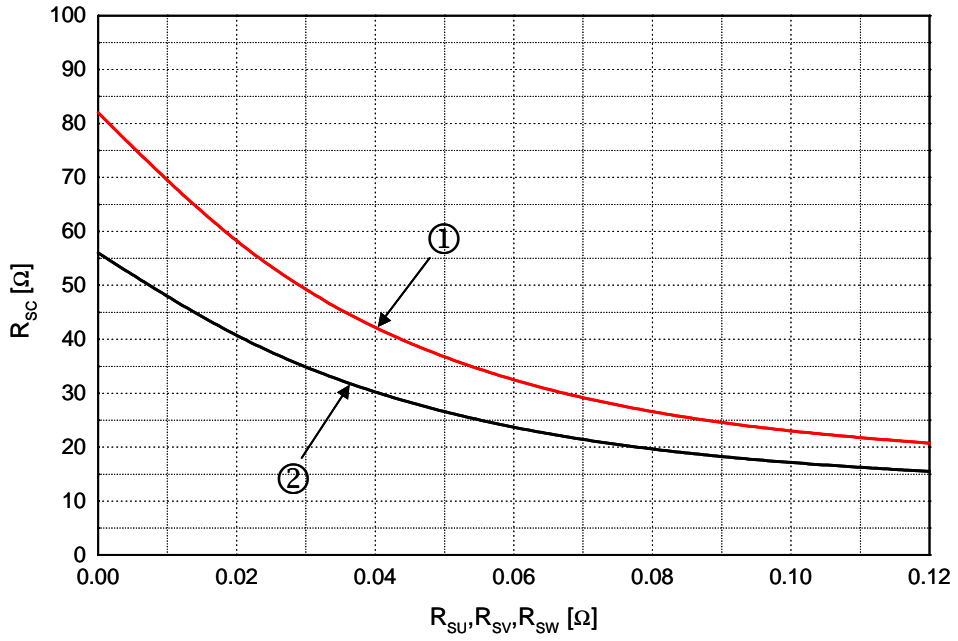

Fig. 7. R_{sc} Variation by change of Shunt Resistors (R_{SU}, R_{SV}, R_{SW}) for Short-Circuit Protection
- Short-circuit current protection is functioning only at the low-sides. It would be recommended that the value of the external sensing resistor (R_{SC}) should be selected around 56 Ω in order to make the SC trip-level of about 22A at the shunt resistors (R_{SU}, R_{SV}, R_{SW}) of 0Ω. For the detailed information about the relationship between the external sensing resistor (R_{SC}) and the shunt resistors (R_{SU}, R_{SV}, R_{SW}), please see Fig. 7.
9. For the use of shunt resistors (R_{SU}, R_{SV}, R_{SW}), please see Fig. 7 in order to select the proper R_{SC}.